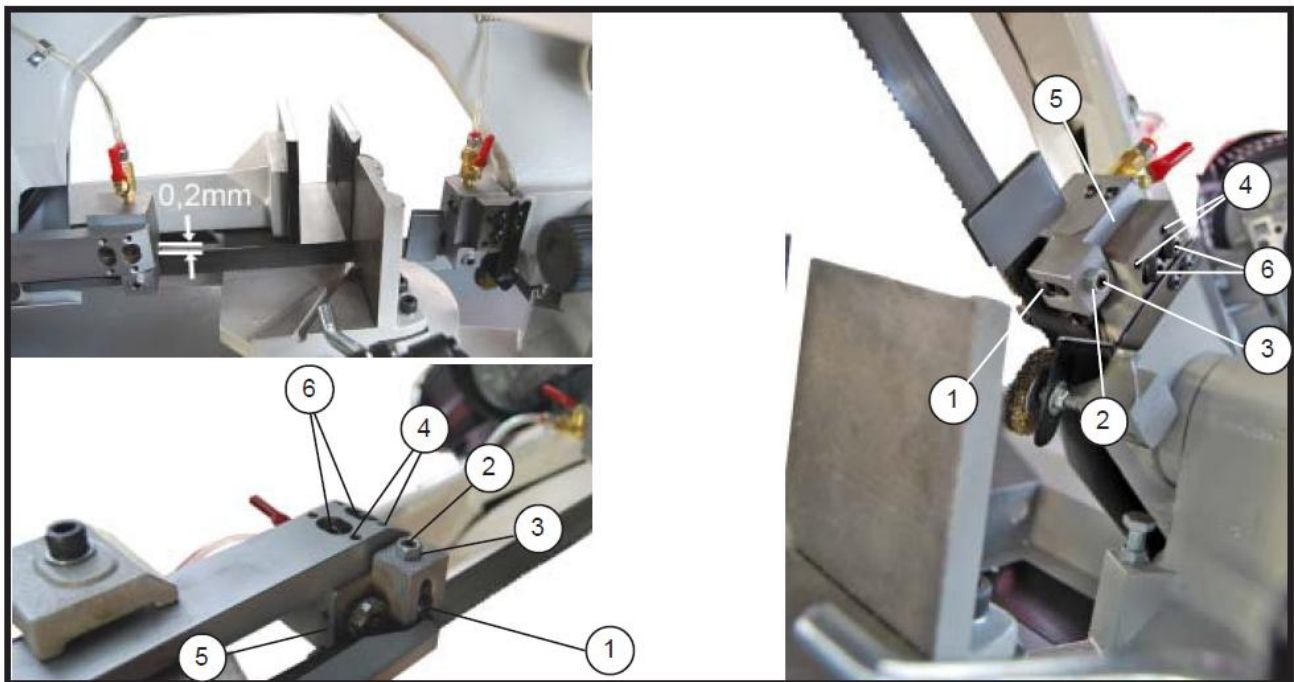

Fig. 5-11
- First set the adjusting screw (1 Fig. 5-11) of the movable blade-guide plate against the side of the blade. Allow about 0.05mm slack to allow sliding of the blade.
- When the adjustment is done, tighten the screw (2 Fig. 5-11) and the nut (3 Fig. 5-11) of the movable plate.
- Adjust the screws (4 fig. 5-11) of the blade-guide block (5 fig. 5-11) keeping a slack of 0.2mm between the back of the blade and fixed plate.
- After adjustment, lock the screws (6 fig. 5-11) making sure that the blade-guide block is perpendicular to the blade.